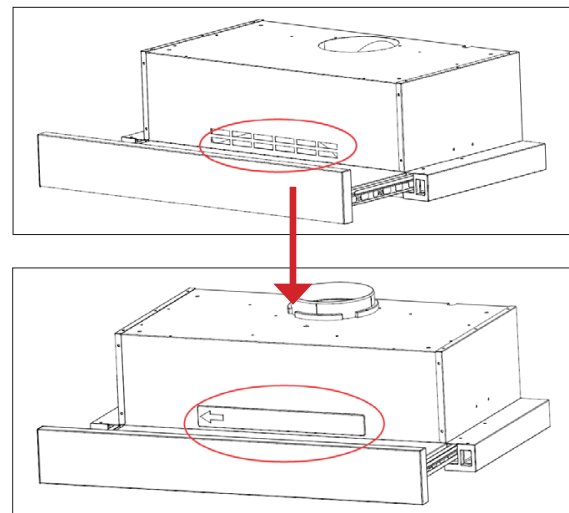

Figure 6
3. Clip in the plastic Front Vent Cover over the vent holes on the front of the rangehood (Figure 6).